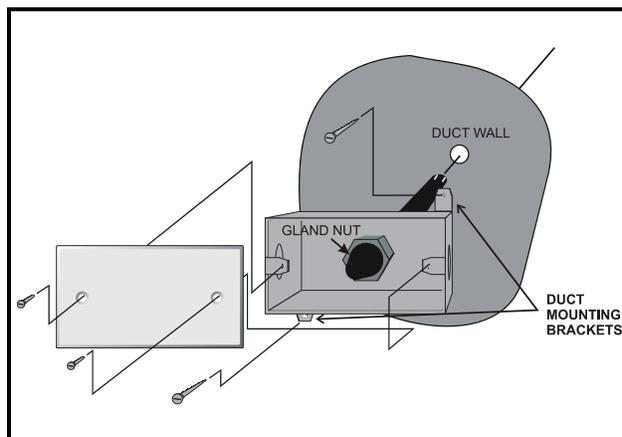

Figure 3-27 - Duct-mounted RH Sensor - Exploded View
2. Bolt the sensor enclosure against the outside of the duct wall so that the sensor element fits through the hole and into the duct. The enclosure may be mounted horizontally, as shown in *Figure 3-27* or vertically. The screws should be tight enough for the foam gasket around the bottom of the sensor to form an airtight seal between the hole in the duct wall and the outside air.